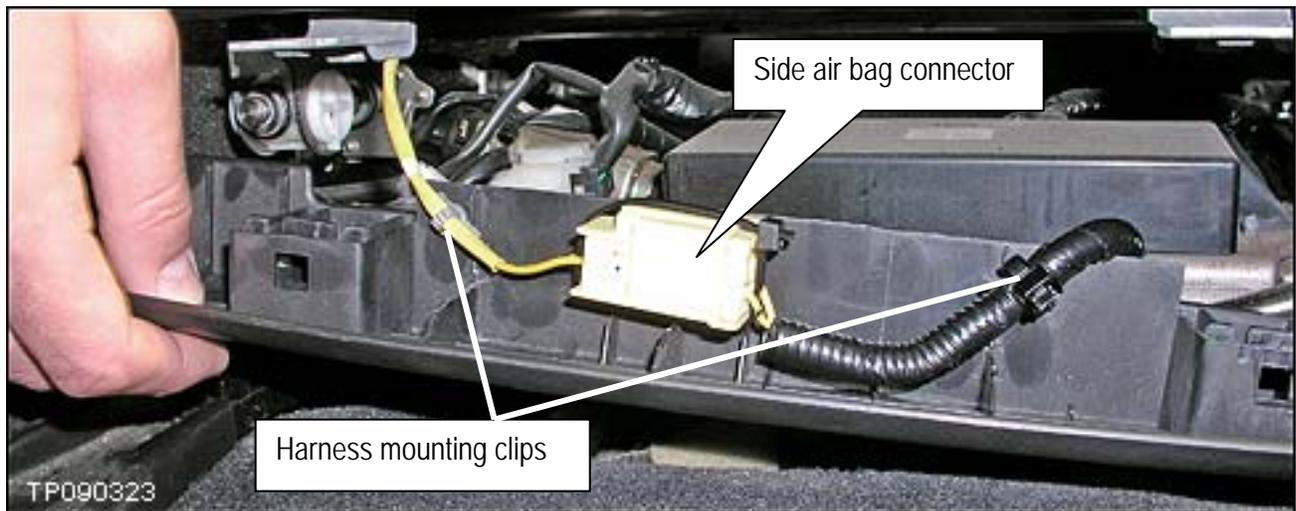

Figure 11
15. Attach the side air bag connector and harness clips to the front finisher as shown in Figure 11.